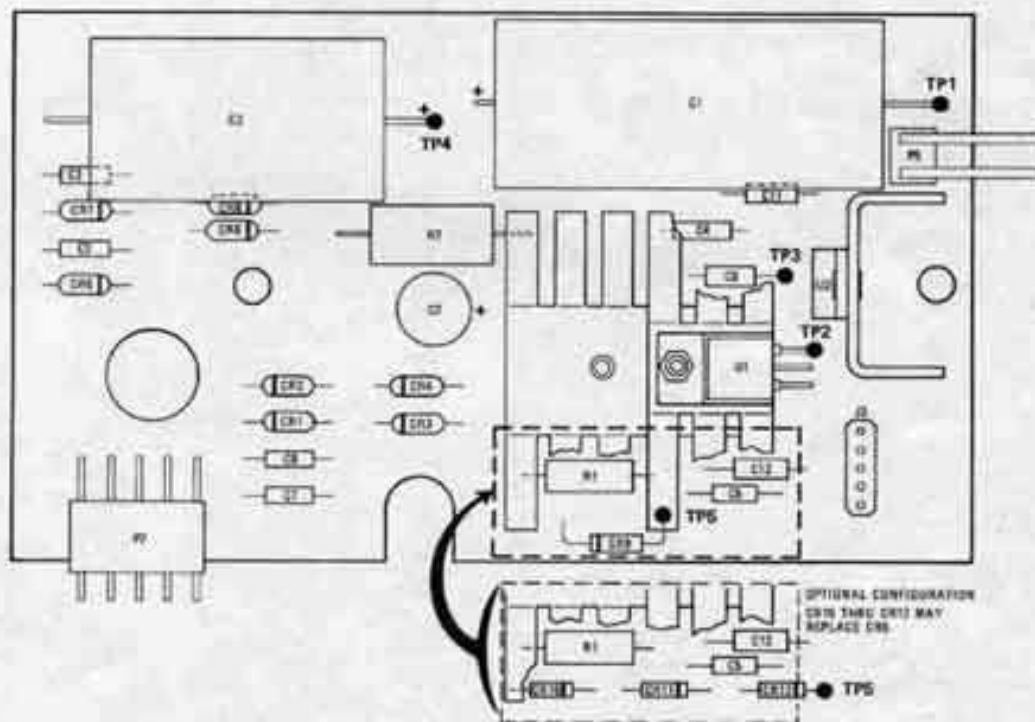

Figure 2-5 Test Points Location Diagram
c. Refer to Figure 2-5 PCB-Power Supply test points locations. With a DVM check for  $+5V \pm 0.15V$  DC at TP2. (The voltages are referenced to ground TP1.)